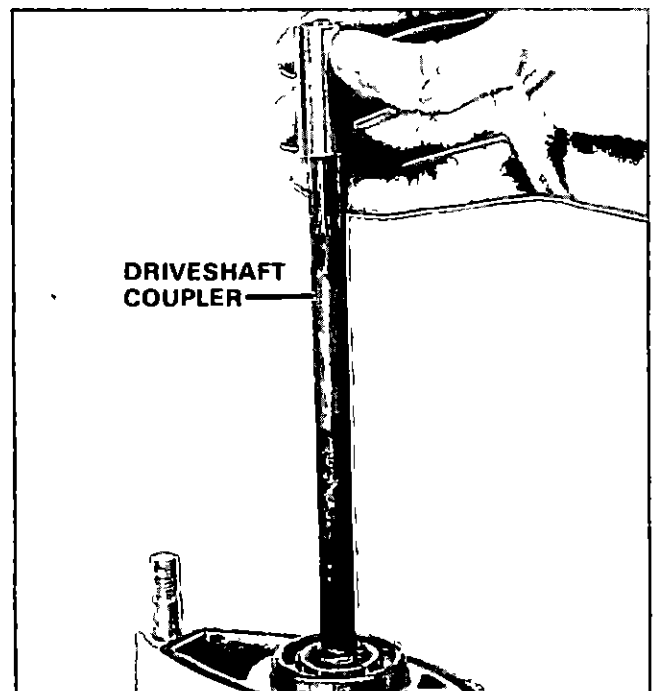

Figure 57. Removing Coupler.
- A Remove coupler from end of pinion shaft. Figure 57.